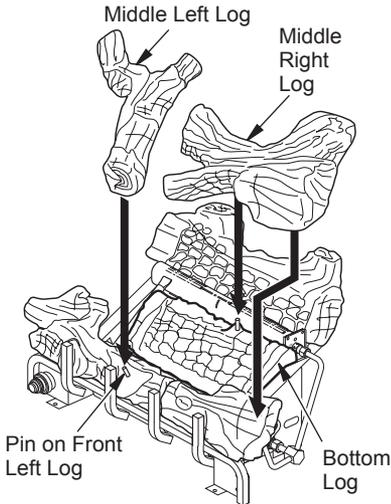

Figure 26 - Installing VUL Model Log Sets
- Place middle right log over front right and bottom logs as shown in Figure 26, page 19. Be sure hole in middle right log seats over pin in bottom log.
6. Place middle left log over front left and bottom logs as show in Figure 26. Be sure hole in middle left log seats over pin in front left log.